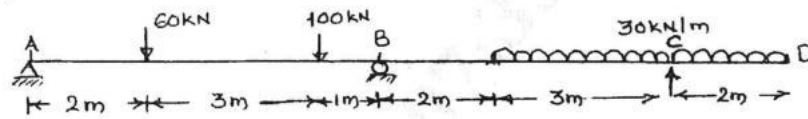

Fig. Q3
- 3 Analyse the beam shown in Fig.Q3 by moment distribution method. Draw BMD, SFD and elastic curve. (20 Marks)